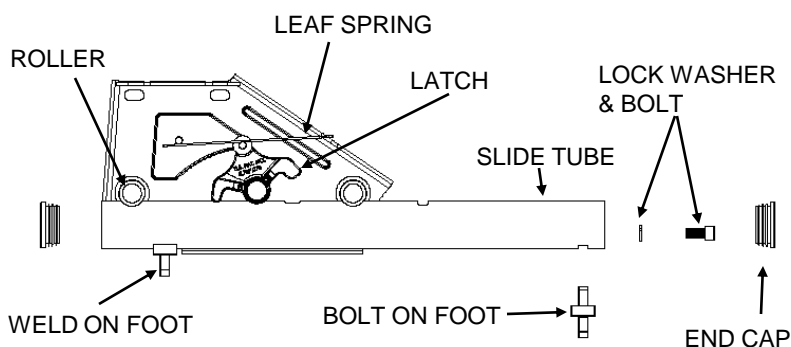

Figure 13
Leaf spring on latch cam keeps latch from disengaging. Hitch can not move rearward with latch engaged. Rearward load forces latch further into slot. Hitch can not move forward due to bolt on foot (shown in Figure 13).
5. Return to truck. Release emergency brake. Manually engage trailer brake and pull truck forward until REESE™ FIFTH Wheel Slider stops at weld on foot (Figure 13) and latch engages in maneuvering position (see Figure 16).
- C. If Slider does not move, latch has engaged tubes (7) and Slider should be locked in maneuvering position.
- D. If Slider does move, latch has not engaged tubes (7). **DO NOT TOW!!** Repeat steps 1 - 6 above until the latch has engaged the tubes (7).